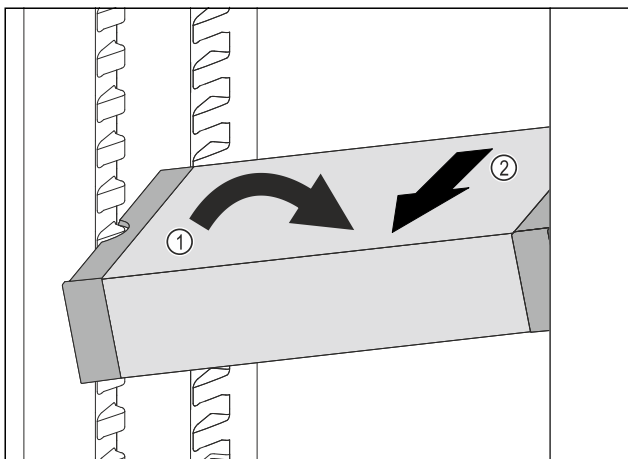

Fig. 171
- Set VarioSafe in refrigerator compartment at an angle. Fig. 171 (1)
- Take VarioSafe out to the front. Fig. 171 (2)